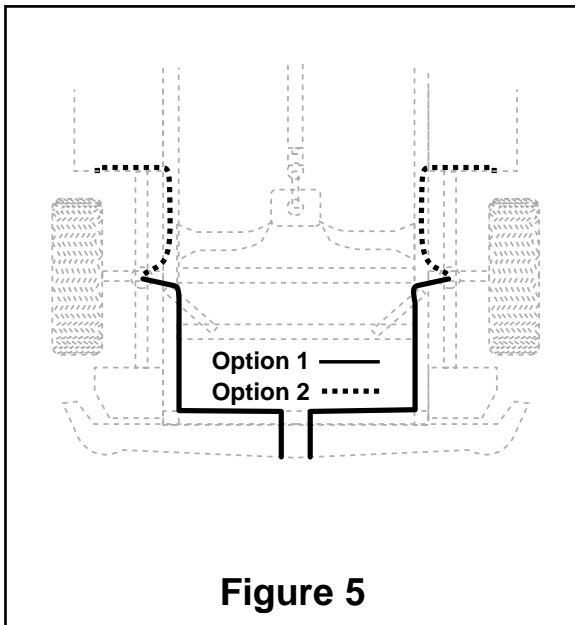

Figure 5
6. Select a location for the inflation valves in the rear bumper area or rocker panel flange insuring that each valve will be protected and accessible with an air hose (Figure 5).
8. Route air line along frame from inflation valve location to the air fitting (Figure 5). Attach air line to chassis with the provided plastic straps.